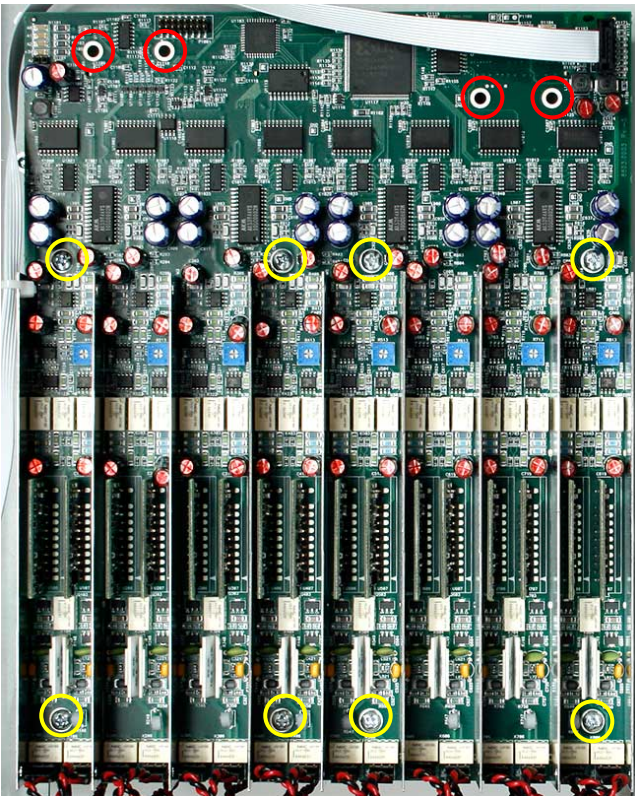

Figure 3 BCAS mounting screws (yellow) and removal holes (red).
5. Unplug the ribbon cable from the rear of the board, as shown in Figure 3.
- Referring to Figure 3, use a #2 Phillips screwdriver to remove the eight screws that secure the BCAS module (shown in yellow). Lift the module to disconnect it underneath by inserting an IC puller into the holes near the rear (shown in red).